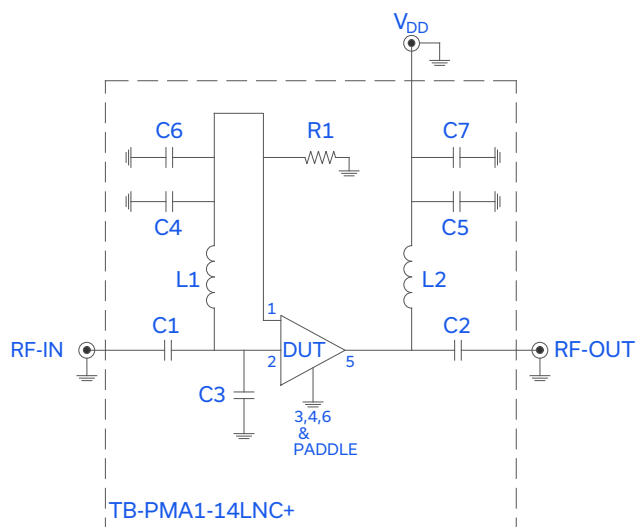

Figure 2. PMA1-14LN+ Characterization and Application Circuit.
1. Tested on Mini-Circuits Characterization Test Board TB-PMA1-14LNC+. See Figure 2. Board loss de-embedded to the device.
8. To achieve specified performance, follow the current mirror circuit described in Figure 2. A feedback loop to RF-IN must be present for the part to operate.